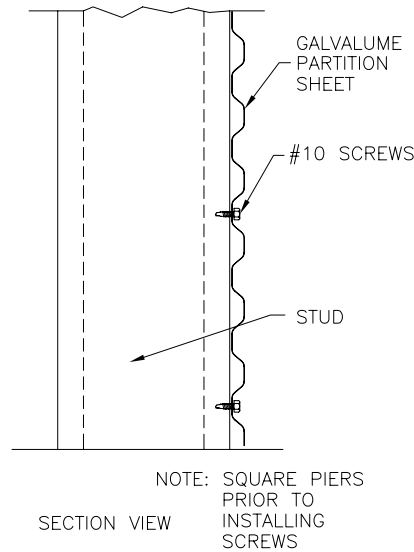

FIGURE 31
ATTACH 32" PARTITION SHEETS TO STUDS USING #10 SCREWS (4) PER SHEET AT EACH STUD. OVERLAP TOP TWO SHEETS AS REQUIRED (SEE FIG. 31). NOTE: MAKE SURE PIERS ARE SQUARE PRIOR TO ATTACHING SHEETS.